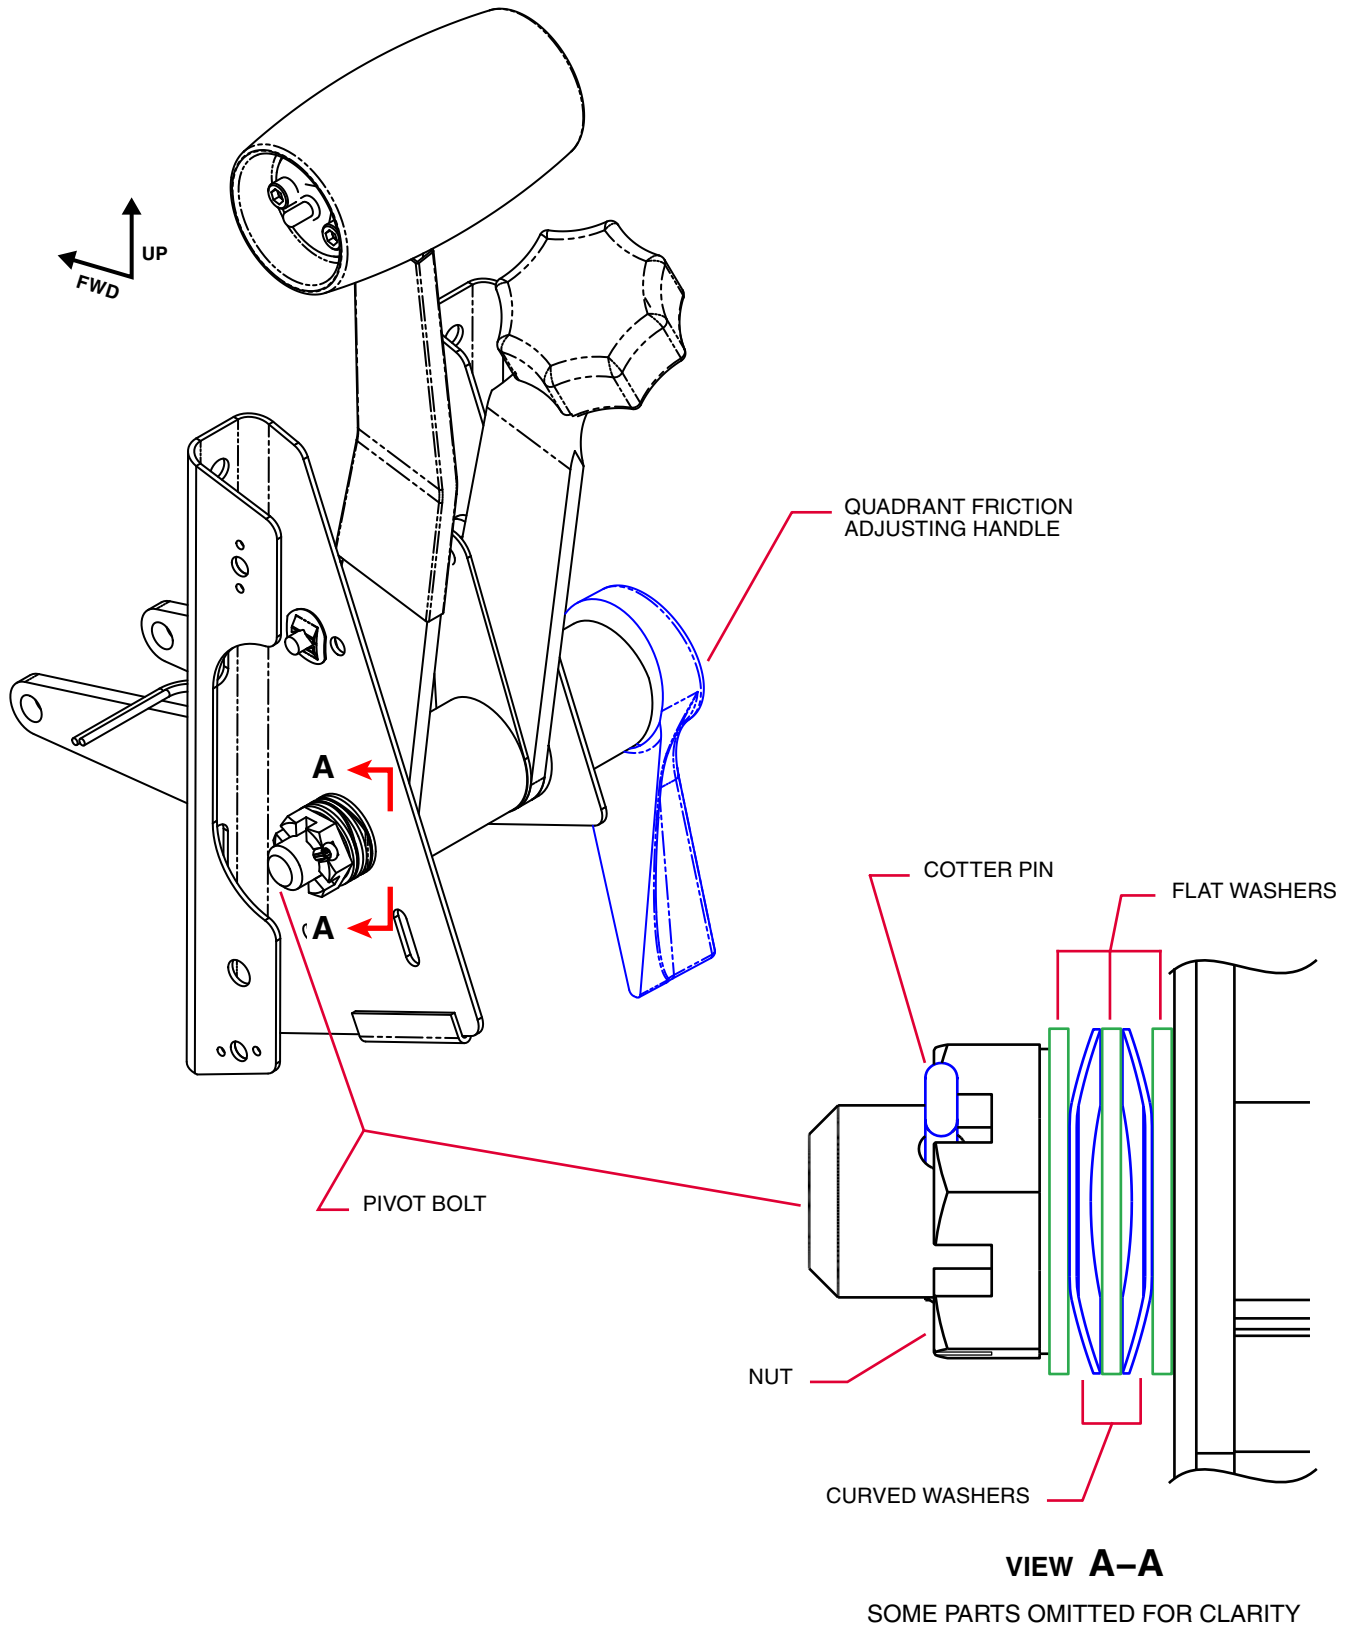

Figure 1
4. Inspect the bolt that the levers pivot around and locate the stack of five (5) washers at the end of the bolt.
5. Compare the washer stack to Figure 1. There should be two (2) curved washers and three (3) flat washers. The configuration of these washers (their order, and the direction of the curved washers) must match the configuration shown in Figure 1.
NOTE: Depending upon the specific aircraft model, there may be additional components on the bolt, such as additional washers or a propeller lever, compared to what is shown in Figure 1. However, all affected aircraft will have the same basic configuration of five (5) washers in the assembly. Refer to the applicable Piper IPC for additional clarification.
6. If the stack of washers does not match Figure 1:
- Rearrange the washer configuration to conform to Figure 1.
- As required to attain the proper, spring-loaded operation of the adjusting handle, add more flat washers on either side of this five (5) washer combination.
- Reinstall the washers and nut; install a new cotter pin at the end of the bolt. (Refer to Figure 1.)